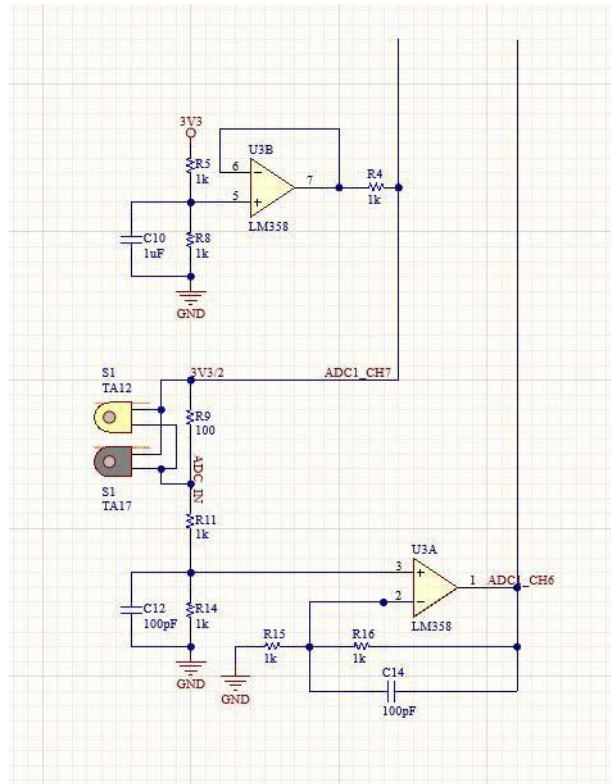

Figure 1.5: Our ADC Input
In this sensor part, we use two opamps which are packed in one IC LM358. IC LM358 includes two opamps. We use one to create a reference voltage, while we connect the second opamp with two current sensor TA12 and TA17 as shown in Figure 1.5.
6.1.3. In Figure 1.5, what is the voltage of ADC1_CH7? of ADC1_CH6?